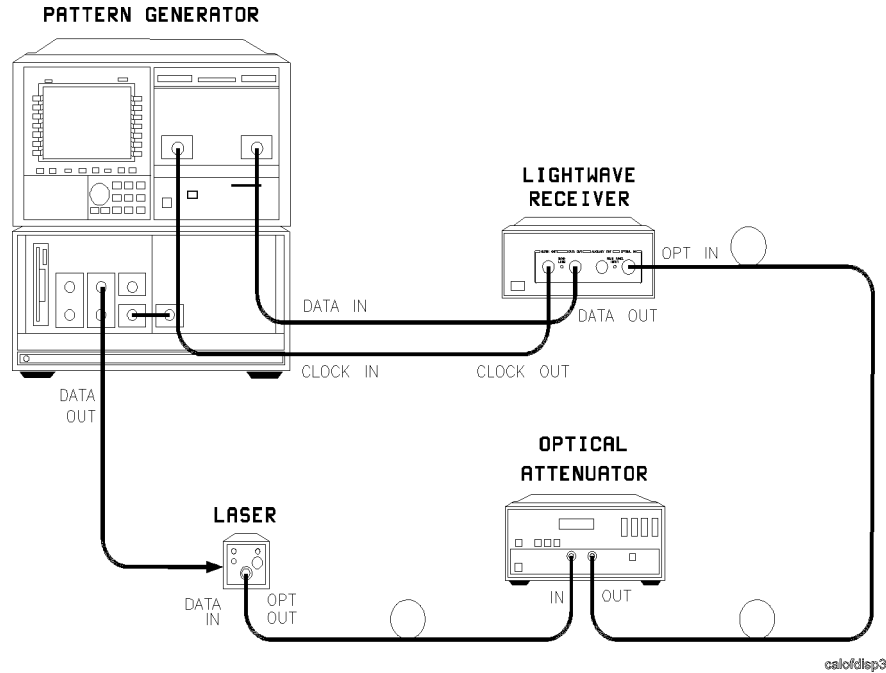

Figure 3-3. Setup for optimizing laser extinction ratio.
1. Connect the equipment as shown in Figure 3-3. Allow all equipment to warm up at least 30 minutes. Set the optical attenuator so the input power to the clock/data receiver is approximately -20 dBm. Confirm the **SYNC LOSS** LED on the clock/data receiver is extinguished and the BERT reads a bit-error-ratio of zero. If necessary, perform automatic **CLOCK/DATA** alignment on the BERT to achieve the minimum error ratio.